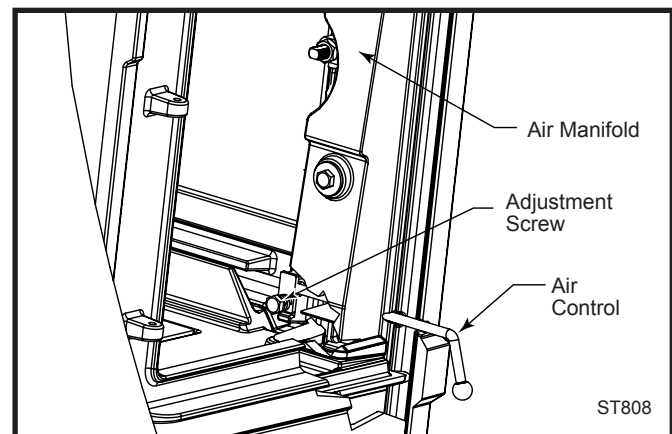

Fig. 34 Primary air control adjustment.
Over time, the air control may tighten or loosen. To adjust the tension on the control, let the stove cool to room temperature. Open the side-loading door and look in toward the inner side of the front panel of the stove. (Fig. 34) Locate the lower hex head bolts (A) on the primary air manifold rods on either side of the door. Adjust with a 7/16" wrench.